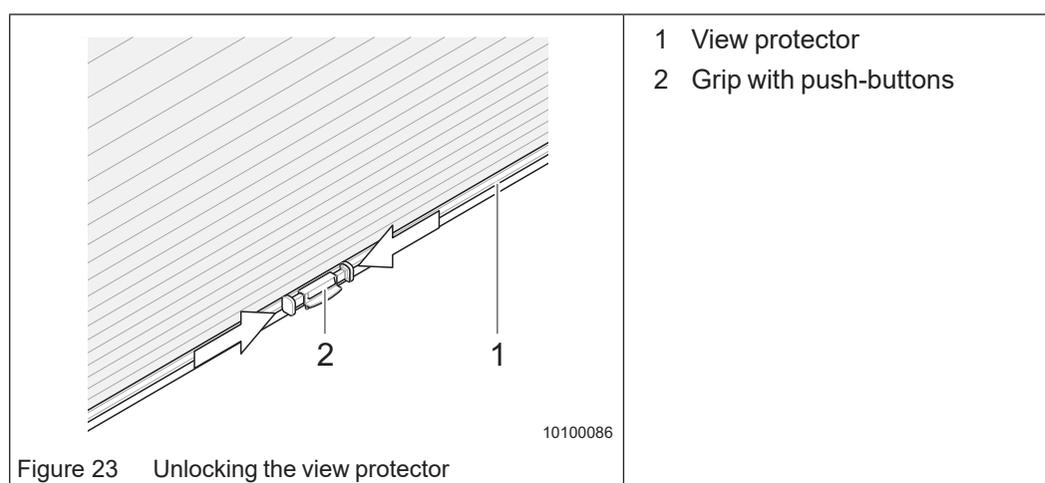

Figure 23 Unlocking the view protector
The view protector (Figure 23/1) is located at the top of the windscreen.
- Press the push-buttons inside the blind's handle (Figure 23/2) together.